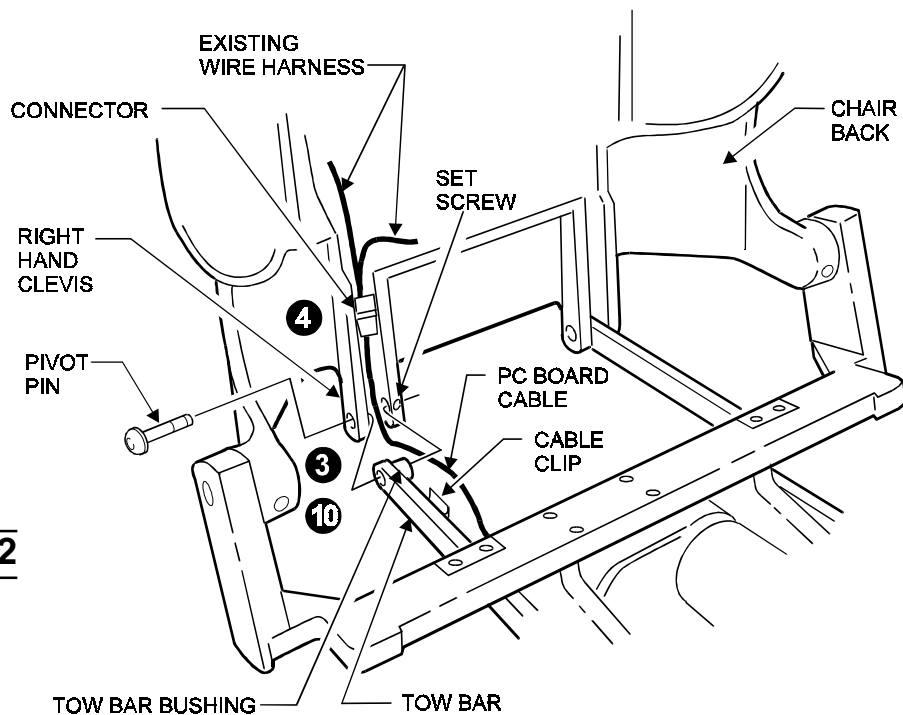

Figure 2
3. Remove the pivot pin in the right hand clevis by loosening the set screw and pulling the pin out as (See Figure 2).
4. Disconnect the PC board cable from the existing wire harness cable at the connector. Remove the PC cable from the two cable clips (See Figure 2).
10. Re-install the tow bar to the right clevis and secure the pivot pin by tightening the set screw. Be sure the cable is mounted behind the tow bar bushing (Refer to Figure 2).